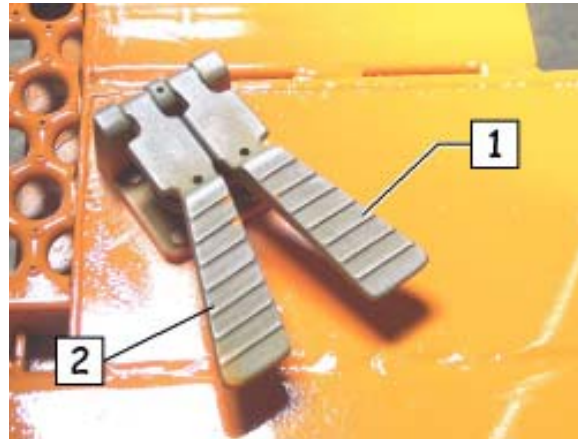

Fig. 4-7 Kelly Rotation Selector Foot Pedal
3. After placing transmission in gear, depress the right hand foot pedal for FORWARD ROTATION (1, fig. 4-7).
- a. Use the foot control valve (fig. 4-7). As the pedal is depressed the rotation speed increases.
5. After the auger has cut the material and you are ready to remove the cuttings out of the hole, place the transmission in neutral, take your foot off the KELLY ROTATION FOOT PEDAL (fig. 4-7).